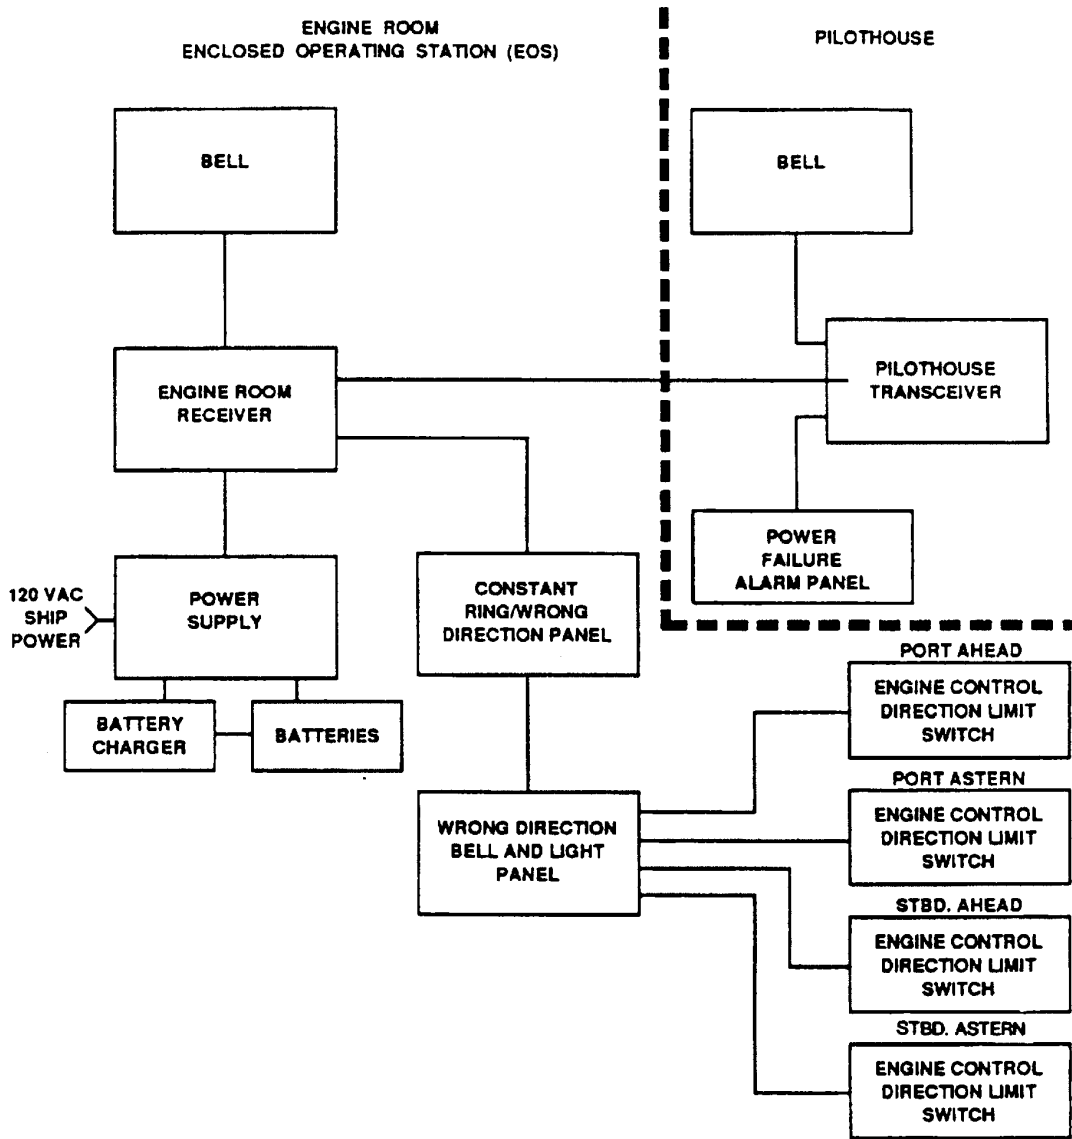

Figure 1-58. EOT.
d. Engine Order Telegraph. The engine order telegraph (EOT) system is a 24 Vdc system used to transmit command from the pilothouse to the EOS. The EOT is used when the pilothouse is not in control of the propulsion plant. An alarm bell sounds to notify the operator if controls are not set to provide requested speed and direction. The power supply incorporates an internal battery charger and backup battery. A simplified block diagram is provided in Figure 1-58.